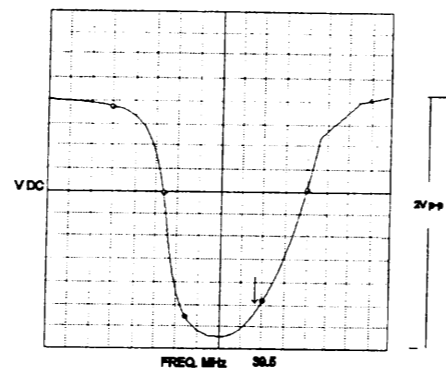

Fig 2.
(see fig. 2)
- 5: Turn L204 to obtain (39.5 MHz) the waveform as in fig. 2.